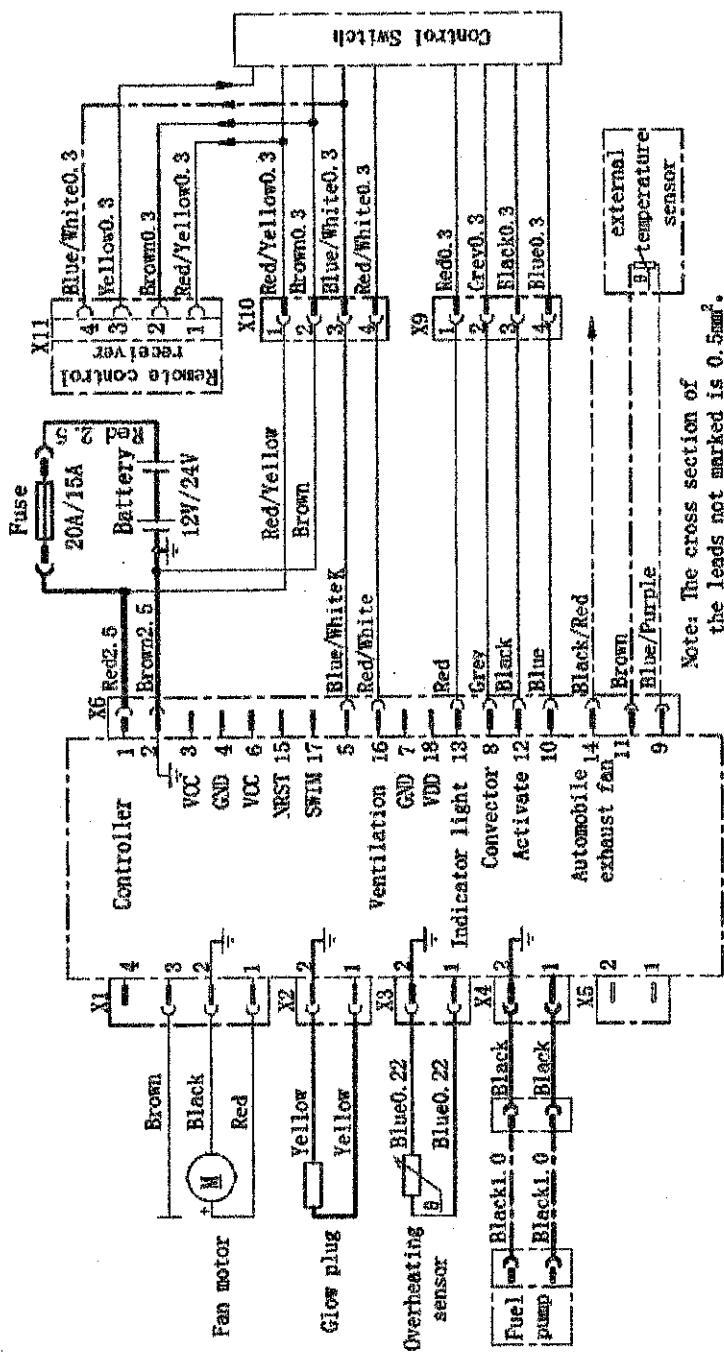

Fig 22
4.5.1 The wiring diagram for the heater is shown in Fig. 22. The wires of the main heater for connection to outside circuits have been made into wire bundles. They can be laid according to the positions of various components and shall be fixed in some proper locations. The distance between two fixing points shall not exceed 30cm. Attention: Any exposed wire bundle out of the vehicle body or out of the wiring groove must be protected by corrugated pipe.